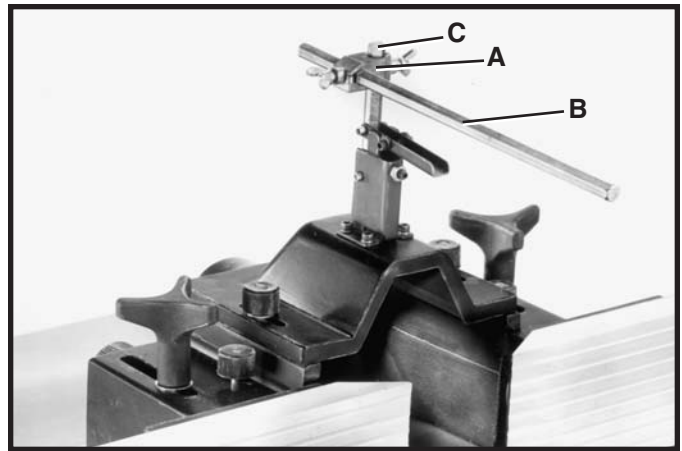

Fig. 24
1. Assemble guard bracket (A) Fig. 24, and hex rod (B) to upright hex shaft (C) as shown.